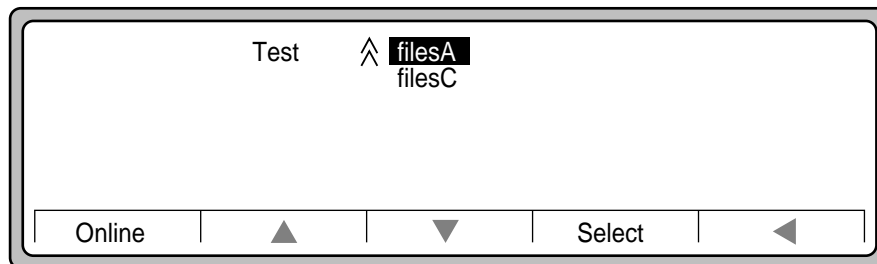

Figure 2-77 Test Submenu
5. Use the **down arrow** button to scroll down and highlight **filesA**, as shown in Figure 2-77, and press the **Select** button.